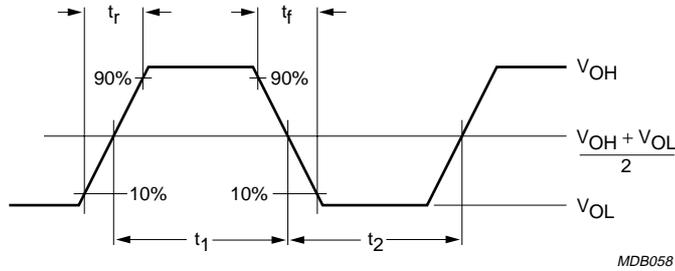

Fig.10 Definition of output and input transition times.
- Transition time and duty factor definitions are shown in Fig.10; $\delta = \frac{t_1}{t_1 + t_2}$